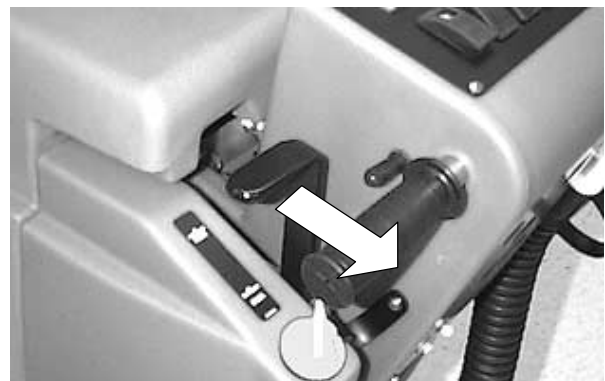

FIG. 3
2. Raise squeegee mount bracket. Pull back on squeegee lift lever to raise squeegee mount bracket (*Figure 3*).